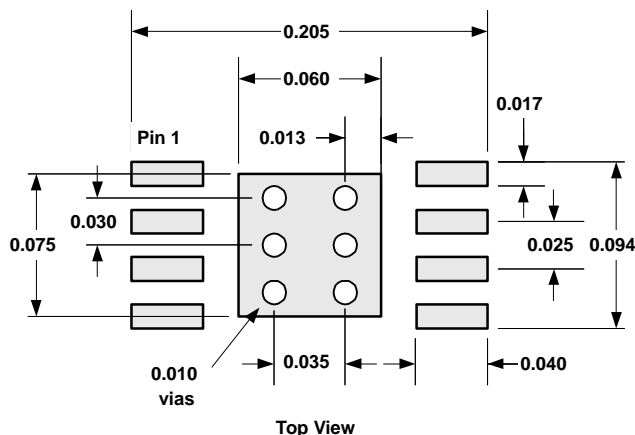

Figure 94. View of Thermally Enhanced Package
- Prepare the PCB with a top side etch pattern as shown in Figure 94. There should be etch for the leads as well as etch for the thermal pad.